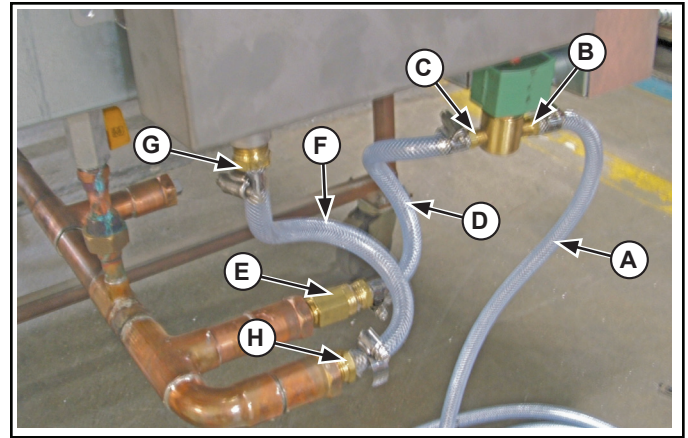

Figure 4. Solenoid Valve, Flexible Hose, and Fittings.
9. Using the section of the flexible hose (A) coming from the "IN" or "I" side of the solenoid (B) connect this hose to your fresh water source. See Figure 4.